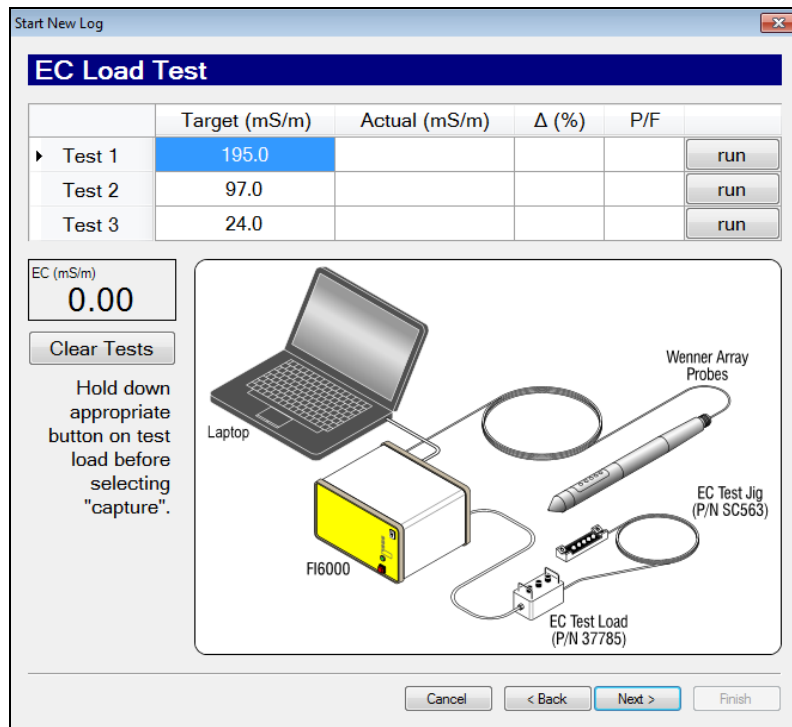

Figure 5.3: EC Load Test Screen
4. Place the EC Test Jig so that the four springs on the test jig touch the four dipoles of the Wenner EC array (Fig. 5.3). Make sure the trunkline and test jig wires go in the same direction. The other spring on the test jig will ground the probe body above the Wenner array. Make sure the springs are pulled out far enough to make a solid contact on the dipoles.